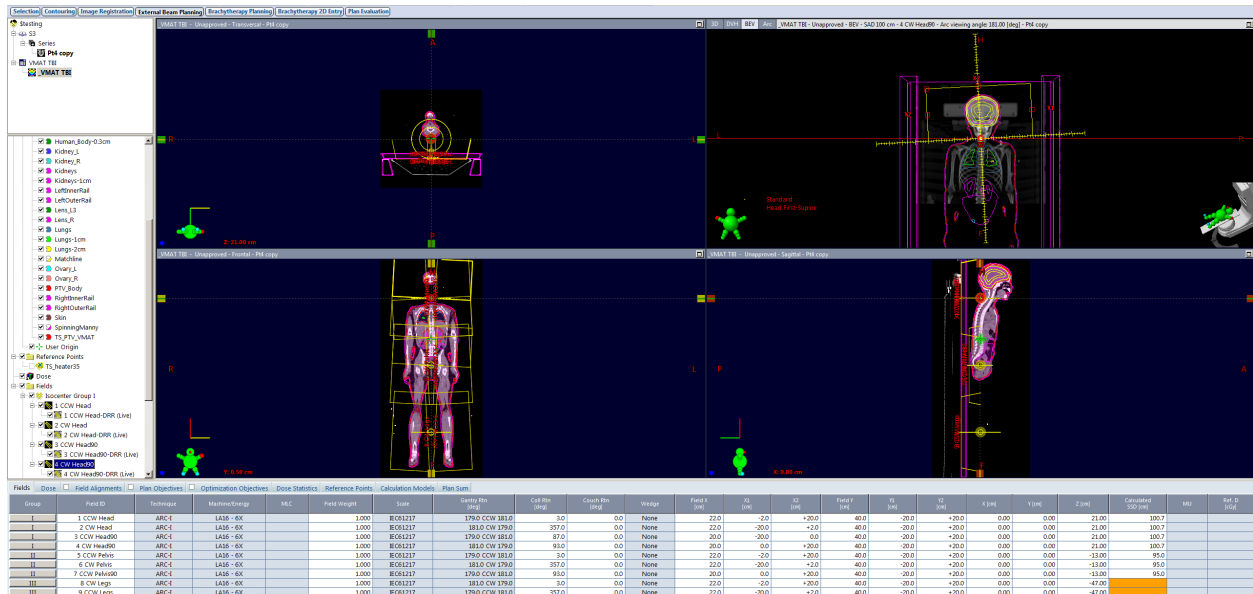

Figure 7: Output from the VMAT TBI autoplanning binary plug-in script.
- Example final output from the script for a VMAT-only patient (Figure 1) is shown in Figure 7